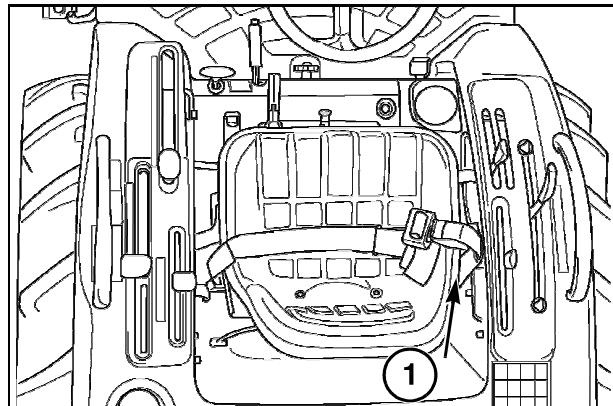

FIG. 89
Fig. 89: Regulates hitch height to provide constant draft with soil engaging implements. Moving the draft control lever (1) forward will give a deeper working depth. Moving the lever to the rear will give a shallower working depth.